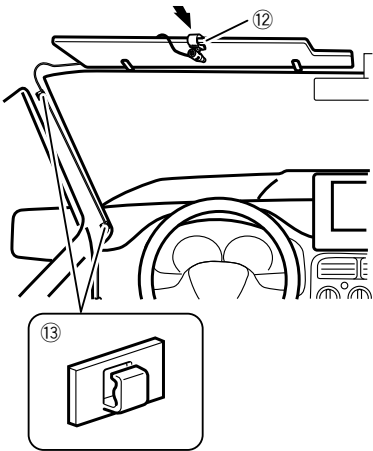

Fig. 8
2. Install the microphone clip on the sun visor. (Fig. 8)
- ⑫ Microphone clip
- ⑬ Clamp